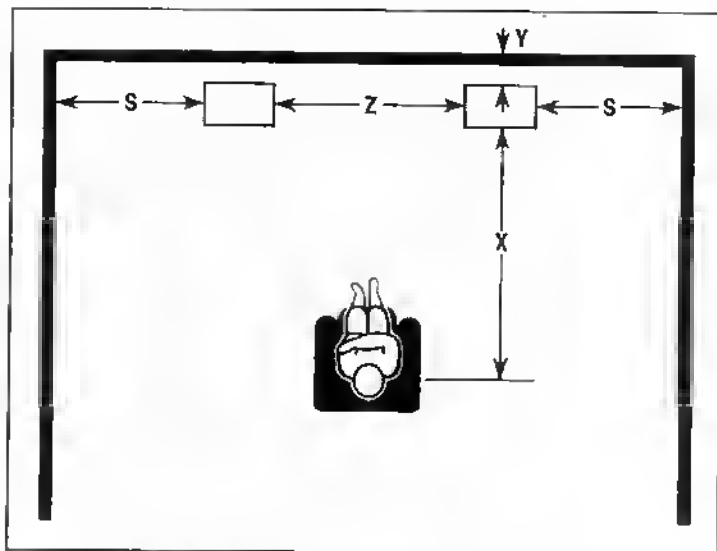

FIGURE 3. Speaker Placement
9. Now you are nearly ready to listen. However, in order to work properly the speaker cabinets must be positioned correctly. The speakers must face straight forward and be exactly the same distance from the wall (or flat against the wall). Do not angle the speakers inward or outward. See Fig. 3 for typical set-up and read the section on Room Placement for further experimentation.
2. Place a chair in the listening area centered between the speakers, as shown in Fig. 3. The chair should be exactly the same distance from both speakers and, for best results, the distance from the chair to either speaker should be greater than or equal to the distance between the two speakers. Use a tape measure for the purpose of this check-out procedure to verify that the chair is precisely in the correct position.
2. There are several distances to consider in placing your speakers (see Figure 3). They are: